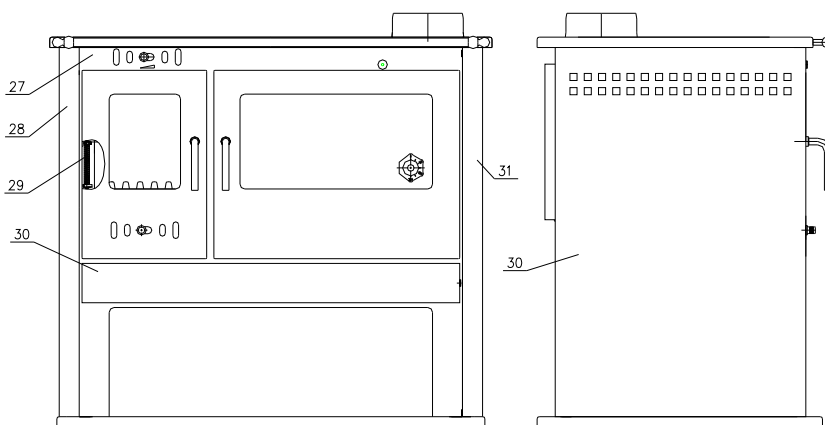
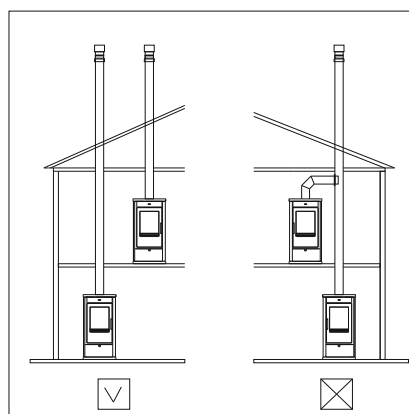

Figure 4 (rest parts in figure 2 and 3)
Figure 7
The cooker should not be connected to a chimney when there is already a connected solid fuel boiler (fig.7), or does not have spring for self-closing fire door (fig. 4, pos. 29). Presence of a spring for self-closing fire door is indicated on the packing label.